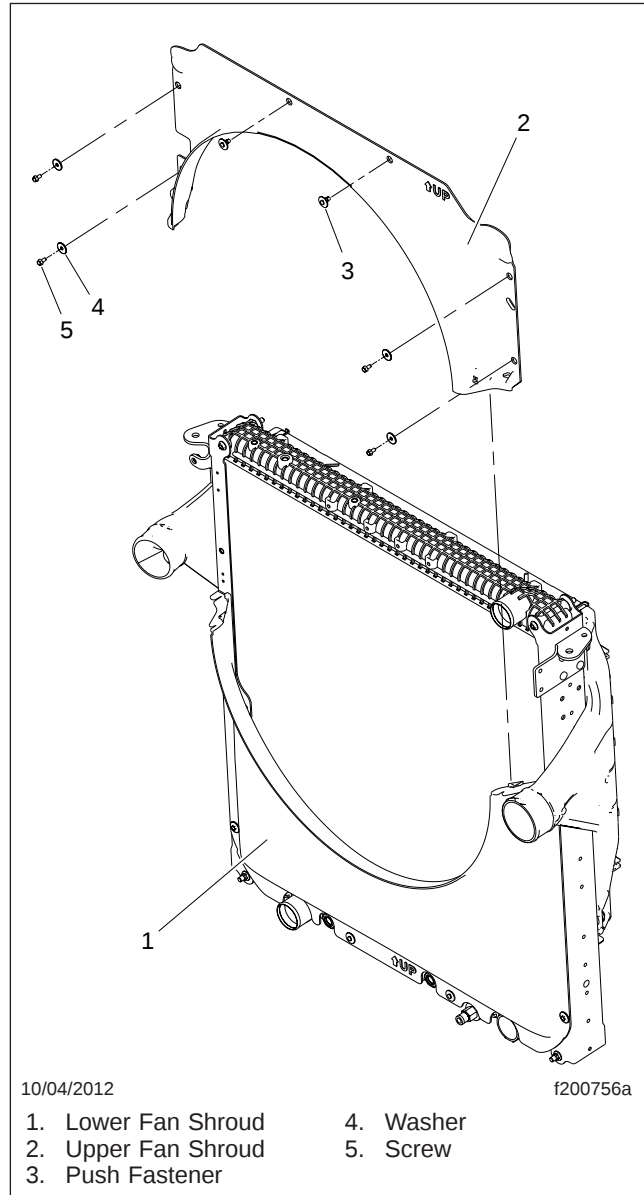

Fig. 9, Fan Shroud Installation
27. Install the new lower fan shroud on the new radiator. See Fig. 9.